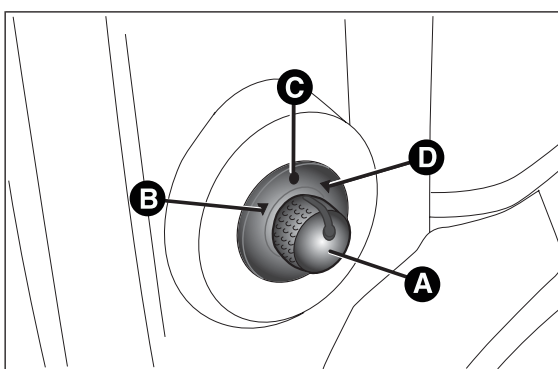

fig. 22
- ☐ select the desired mirror (left or right) using switch A fig. 22 ;